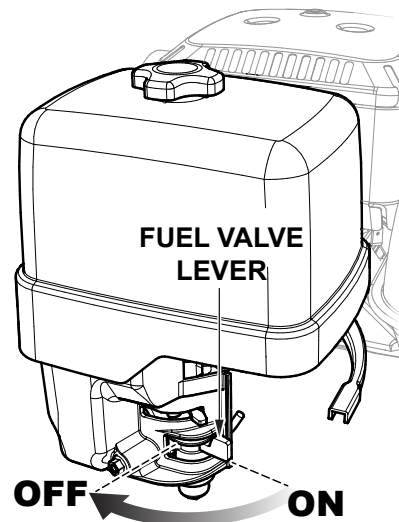

Figure 54. Fuel Valve Lever (OFF)
4. Place the fuel valve lever in the **OFF** position (Figure 54).